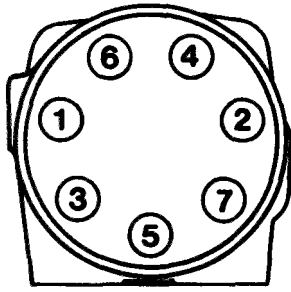

Figure 6-5. Capscrew Torque Sequence
y. Install dry capscrews (28). Pretighten capscrews to 150 inch-pounds (172.8 kgcm). Torque capscrews to 275 inch-pounds (316.8 kgcm) in sequence shown in figure 6-5.